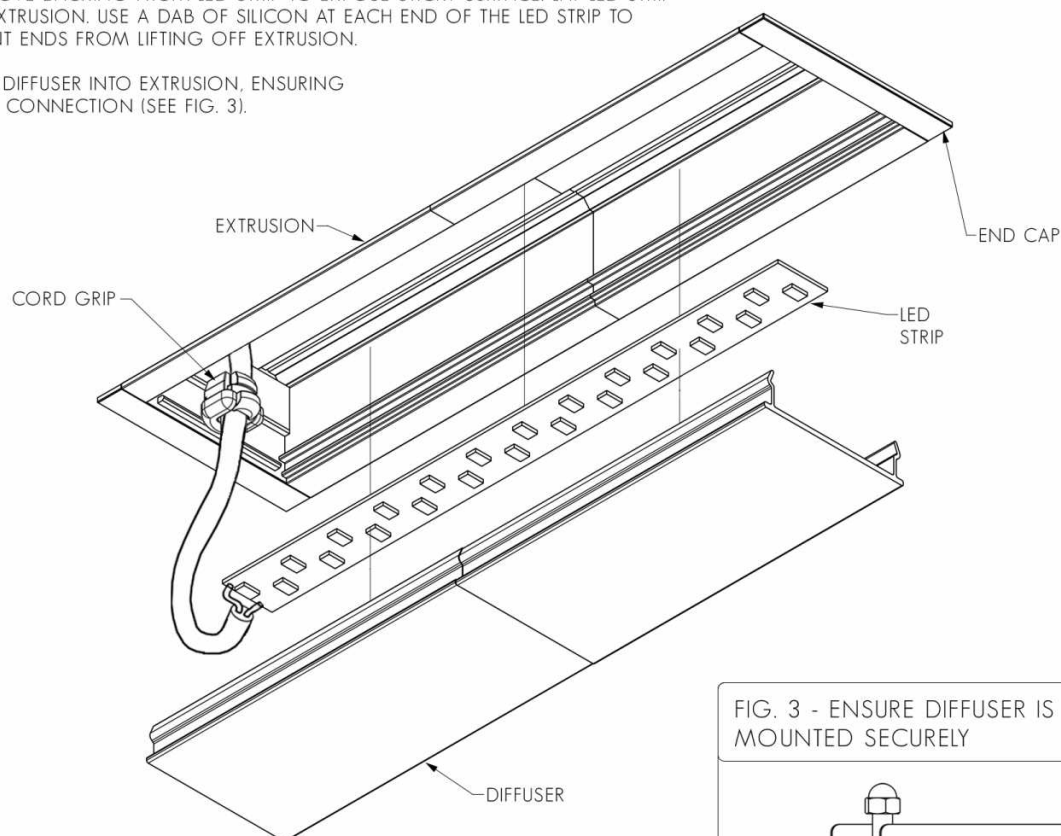

FIG. 3 - ENSURE DIFFUSER IS MOUNTED SECURELY
5. CLIP DIFFUSER INTO EXTRUSION, ENSURING A FIRM CONNECTION (SEE FIG. 3).